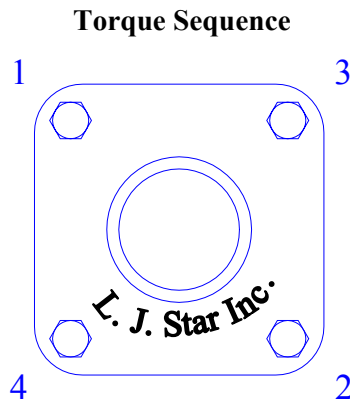

Figure 1
The nuts on your Visual Flow Indicator were brought to the proper torque value at the factory. However, during shipment and handling they may have loosened. Therefore check all nuts before placing the unit in service. The proper sequence is displayed in Figure 1. The correct torque value is listed in Table 3.
- g) Torque the nuts in small increments (3 ft-lbs or less) until you have reached the correct value. Use the torque sequence and value as shown in Figure 1 and Table 3 respectively.